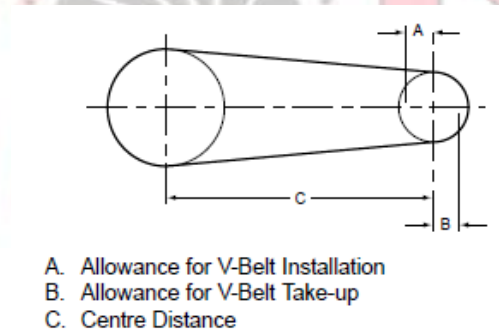

Figure 3.5 V-Belt Centre-Distance Determination
b. When positioning the motor relative to the pump shaft for a v-belt drive, consider belt tightening according to Table 3.1. Check your General Arrangement drawing for any special requirements. The dimensions in this table under SPA, SPB, and SPC represent the minimum distances below the standard center distance for belt installation (refer to Figure 3-5). The dimensions under "minimum take-up allowance" indicate the minimum distances to allow for belt tightening.
d-3. Determine installation and take-up allowance dimensions by referring to Table 3-1 for the appropriate belt pitch length. Allow for moving the centers closer together by the amount specified in Table 3-1 to facilitate belt installation without damage (refer to Figure 3-5). Account for center adjustment based on the Minimum Take-Up Allowance in Table 3-1 to compensate for manufacturing tolerance, possible stretch, and wear of belts during initial run-in and operation.